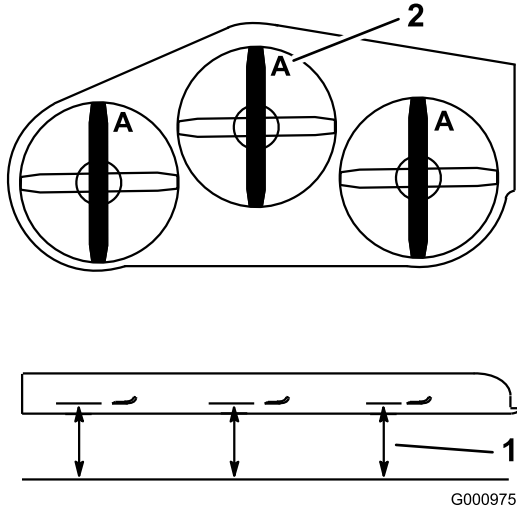

Figure 56
- Measure from a level surface to the cutting edge, position **A**, of the blades (Figure 56).